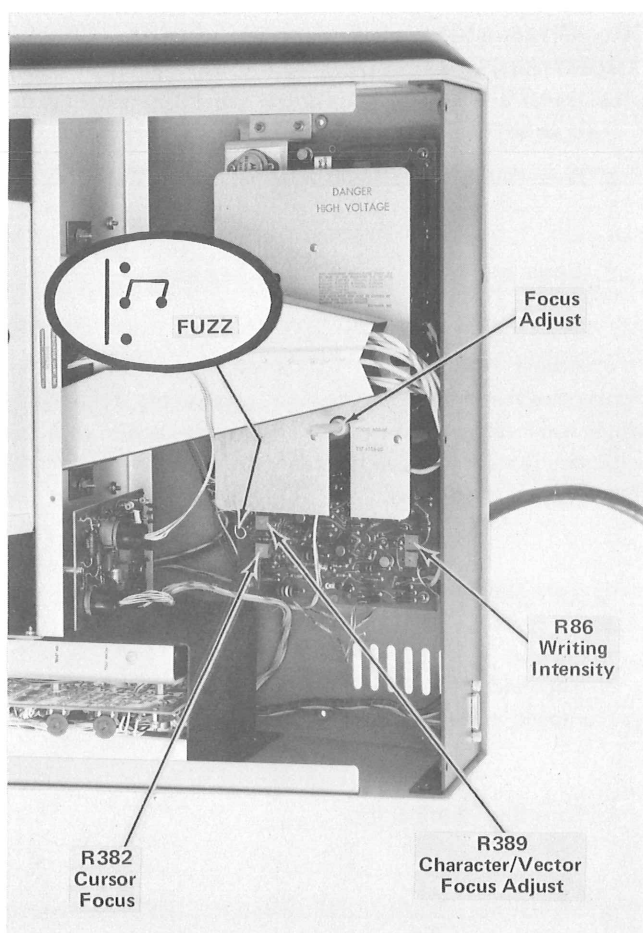

Fig. 4-11. Adjustments and Test Point locations.
c. Check the position of the FUZZ strap on the High Voltage & Z Axis board in the display unit. (Fig. 4-11.) The strap should always be in the position shown.
g. While observing the Alpha cursor, adjust R86, Writing Intensity (on the High Voltage & Z Axis board, Fig. 4-11) until the Alpha cursor intensity diminishes to where it can barely be seen.
- c. Adjust FOCUS ADJUST (alongside yoke housing in display unit — Fig. 4-11) in small increments, entering e after each adjustment, until optimum appearance is achieved. Press PAGE as necessary to keep the writing in the corner of the display.
- (1) Place the LOCAL/LINE switch at LOCAL.
- (2) Press PAGE.
- (3) Using the Space Bar, LF, RETURN, and e keys, enter several e characters in each of the four corners. Then position the cursor to the center of the display area.
- (4) Alternately enter the e character and adjust R389 — Character/Vector Focus (on High Voltage & Z Axis board in the display unit, Fig. 4-11) until center focus and corner focus are approximately the same.